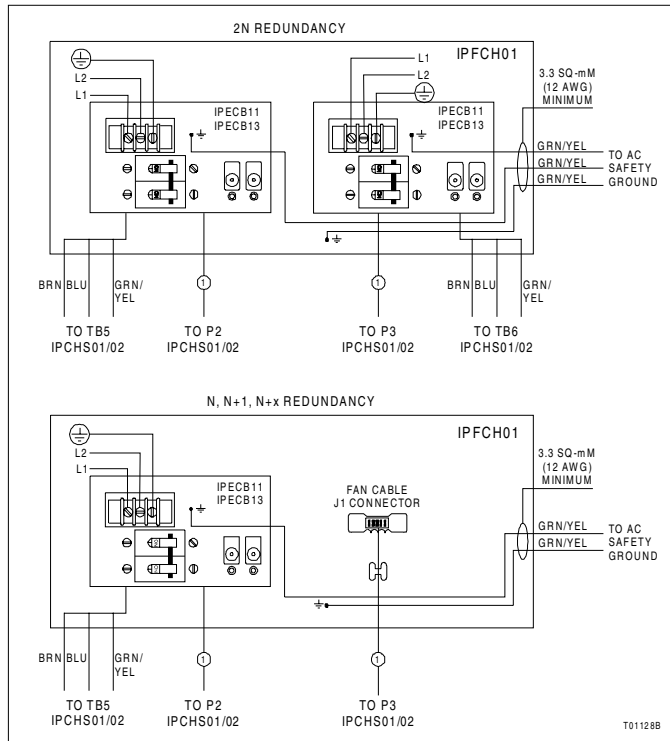

Figure A-1. IPFCH01 Power Fan Chassis Wiring (Table A-1)
6. Disconnect all cables and wiring from the power module chassis backplane (Figs. A-1 through A-7). Label the wires as they are removed.
14. Install the fan cables that were previously removed. Note the orientation of the J1 connector in Figure A-1 to properly install the fan cable.
Table A-1 and Figure A-1 provide IPFCH01 Power Fan Chassis with IPECB11 or IPECB13 Power Entry Circuit Breakers wiring information. The figure shows N, N+1, N+x, and 2N redundancy wiring.
**Table A-1. Fan Power and Status Cables (Fig. A-1)**